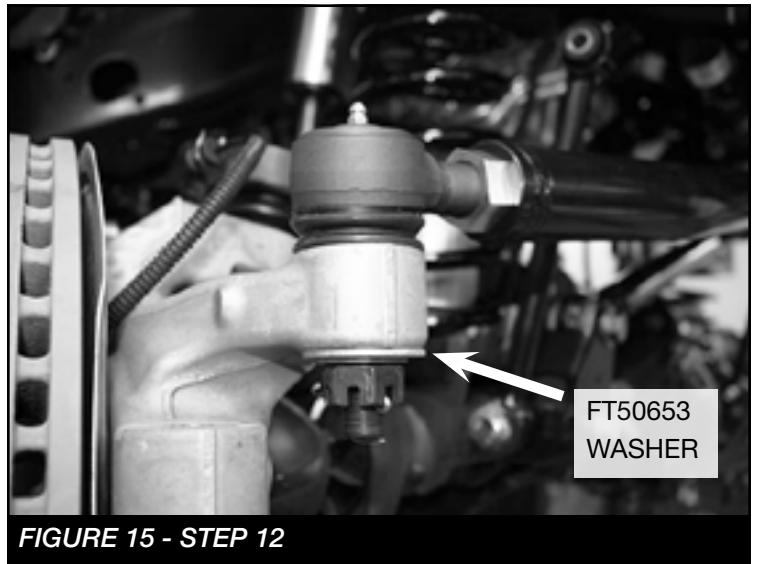

FIGURE 15 - STEP 12
12. Next, install the end with the new rod end to the knuckle like shown in **FIGURE 19** using the supplied 62000005152 (USS Washer) on the bottom side. Torque to 43 ft-lbs then install cotter pin. **NOTE: Make sure the washer sits completely flush with the knuckle. Grind/sand accordingly for proper fit. SEE FIGURE 15**